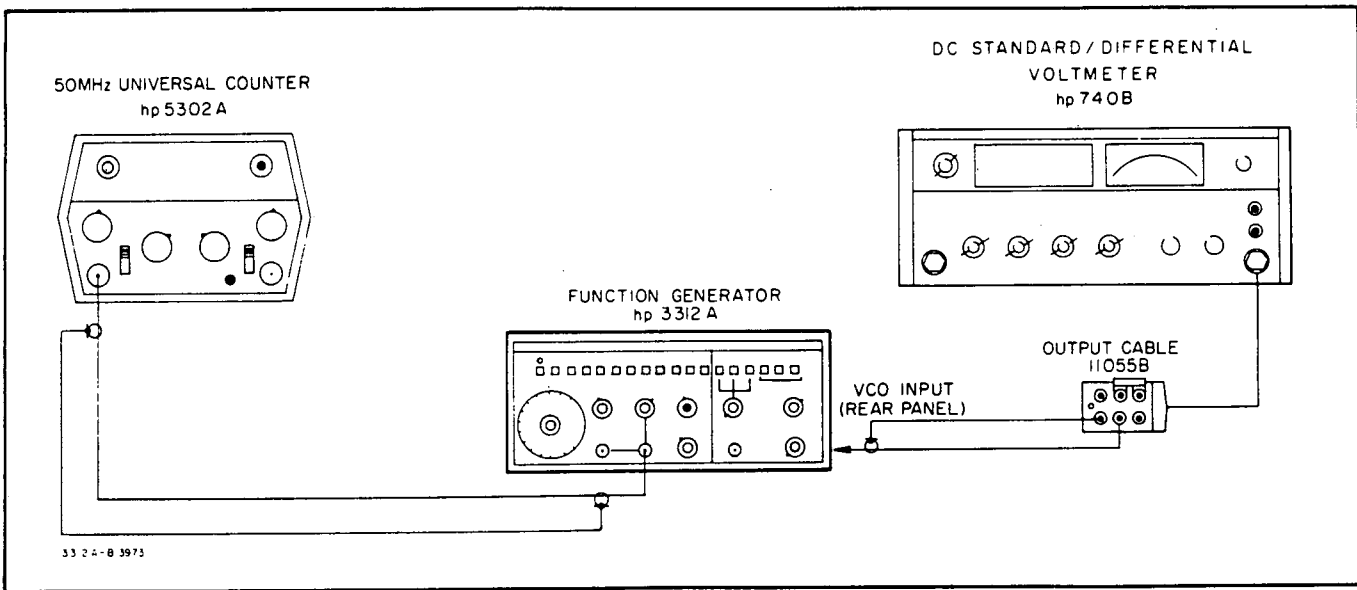

Figure 5-11. VCO Linearity Test.
a. Connect equipment as shown in Figure 5-11 and set the 3312A controls as follows: